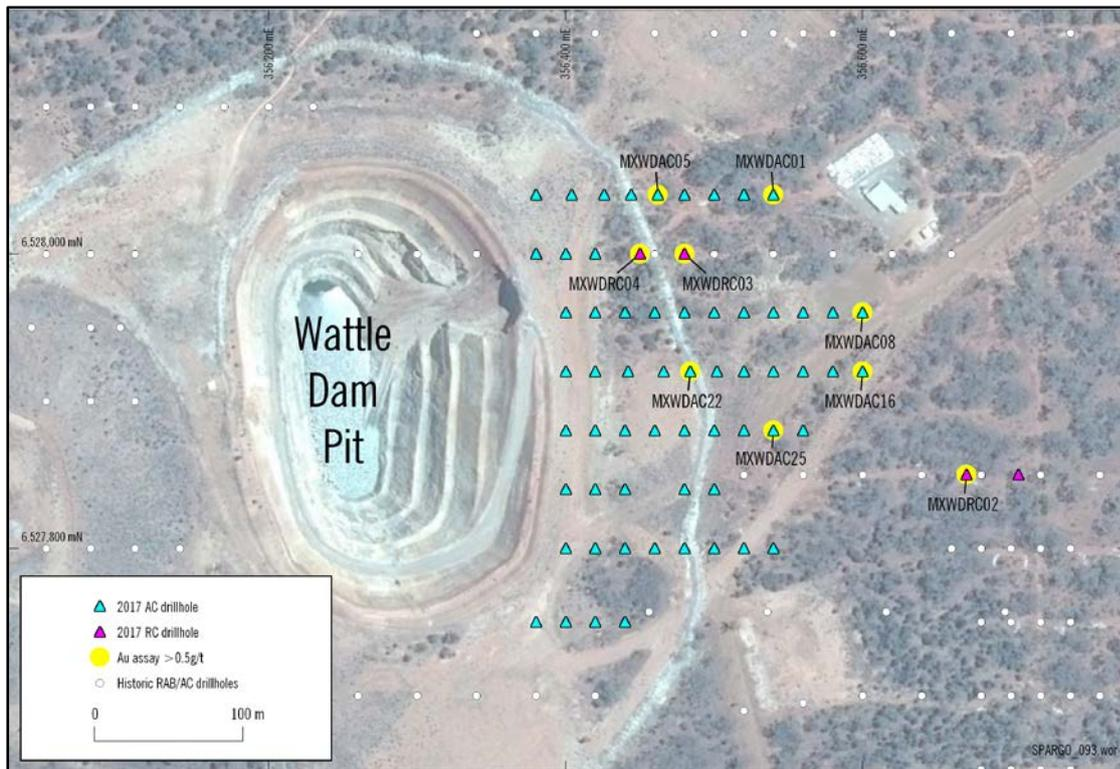

Figure 2: Current and past exploration drill holes at Wattle Dam on Google Earth map.
A total of 4 Reverse Circulation (RC) and 60 Aircore (AC) holes were drilled to the east of the Wattle Dam pit for a total of 3,334m (See figure 2). Highly encouraging results were reported including RC hole MXWDRC03, which returned highly anomalous gold assays **from 20m** to the end of hole at **100m**. Some of the more significant zones are highlighted in Table 1 and include **10m @ 0.76 g/t** from 20m including **3m @ 1.10 g/t** from 25m. The last 10m of the hole intersected a sulphide bearing ultramafic unit with the best result of 3m @ 0.97 g/t from 91m.